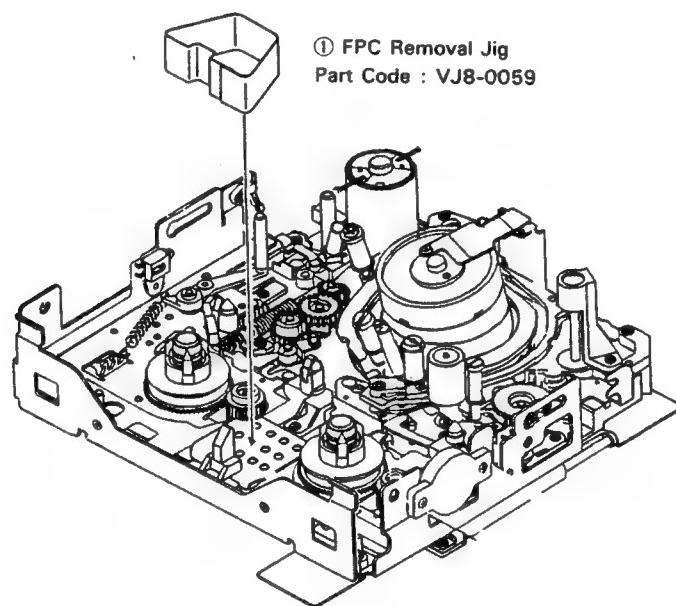

Fig. 2-21.
(See Figs. 2-21. and 2-22.))
FPC removal jig ① shown in Fig. 2-21.